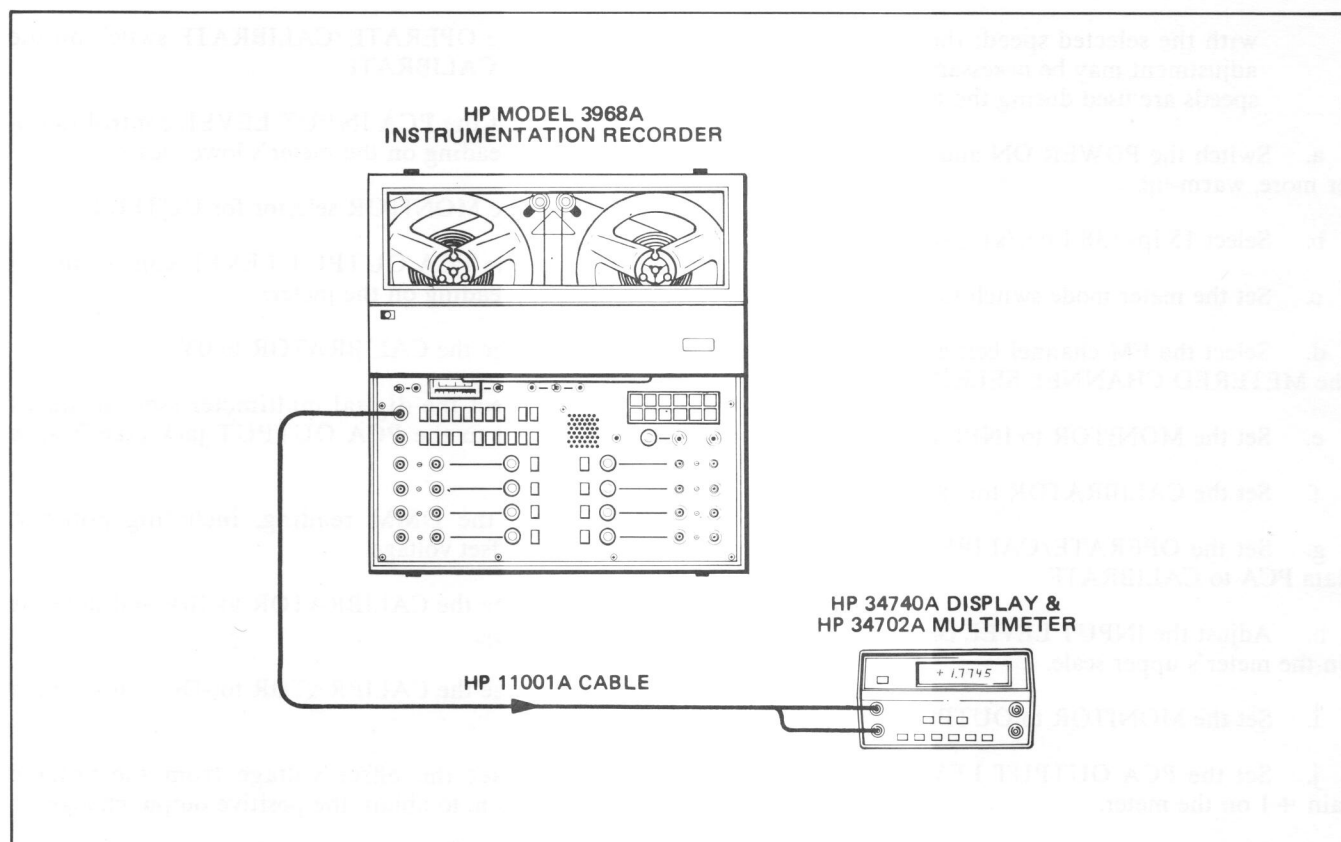

Figure 5-6. FM Zero and Linearity Test Setup
- l. Connect the digital multimeter (set for 10 VDC) to the PCA OUTPUT jack (see Figure 5-6).
- l. Connect the digital multimeter (set on the 10 VDC range) to the PCA OUTPUT jack (see Figure 5-6).